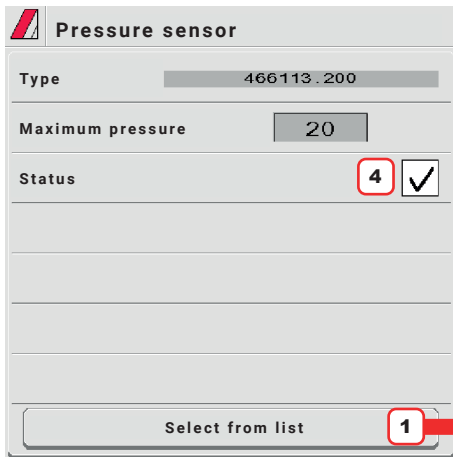
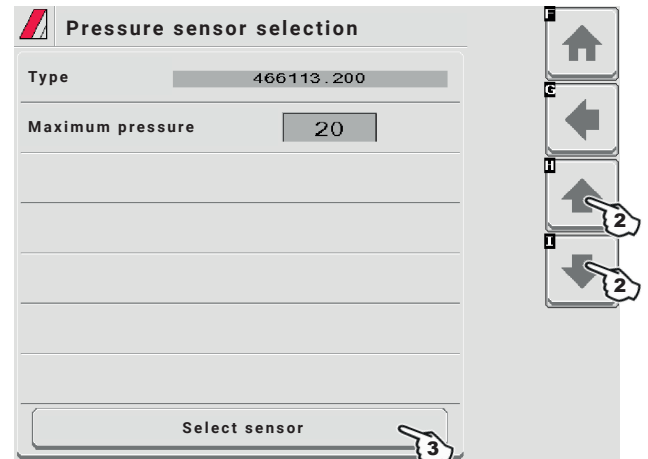

Fig. 8
Fig. 9
1 Set installed pressure sensor by selecting it from the list in Fig. 9 (use keys 2 to scroll items, and key 3 to confirm). The relevant configuration data will be automatically loaded (Fig. 8).